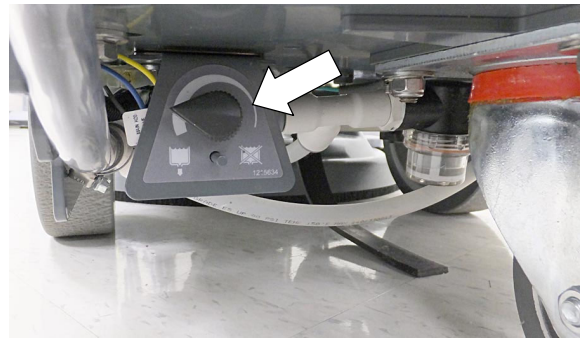

FIG. 73
10. T300e model - To adjust the solution flow rate when conventional scrubbing, turn the solution flow control knob located underneath machine (Figure 73).